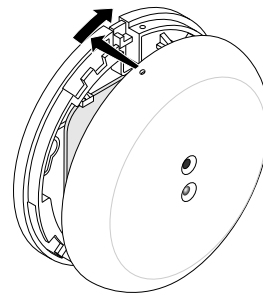

Figure 5 - Attaching the Cover
- **Round housing** Line up the tabs on the base with the corresponding tabs on the cover, press together and turn clockwise until the cover snaps firmly into place. See Figure 5.